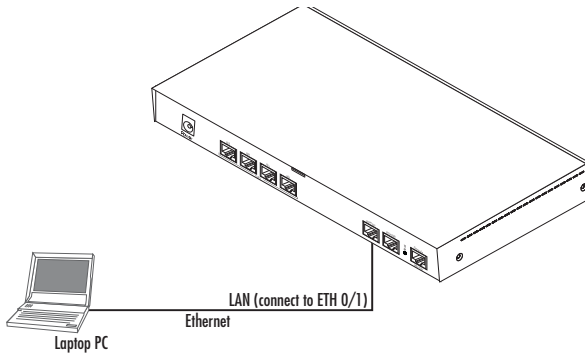

Figure 1. Connecting to the PC
1. Connect the PC's Ethernet port to LAN (ETH 0/1) port of the SmartNode 4950. The SmartNode 4950 Series is equipped with Auto-MDX Ethernet ports, so you can use straight-through or cross-over Ethernet cables for host or hub/switch connections. (See figure 1.)